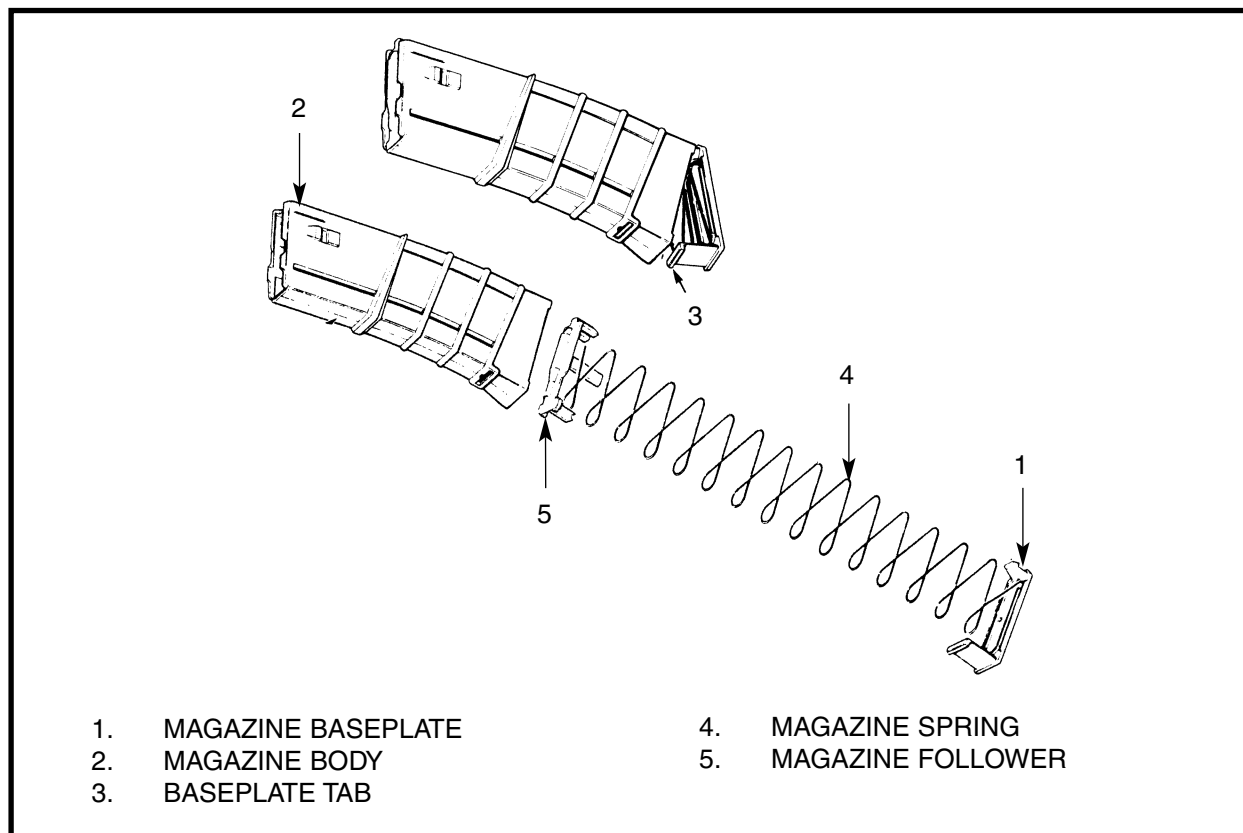

Figure 3-2-64 Assembling and Disassembling the Plastic Magazine
81. To disassemble the plastic magazine see figure 3-2-64 and proceed as follows:
- a. Take control of the baseplate (1) to control the spring; and